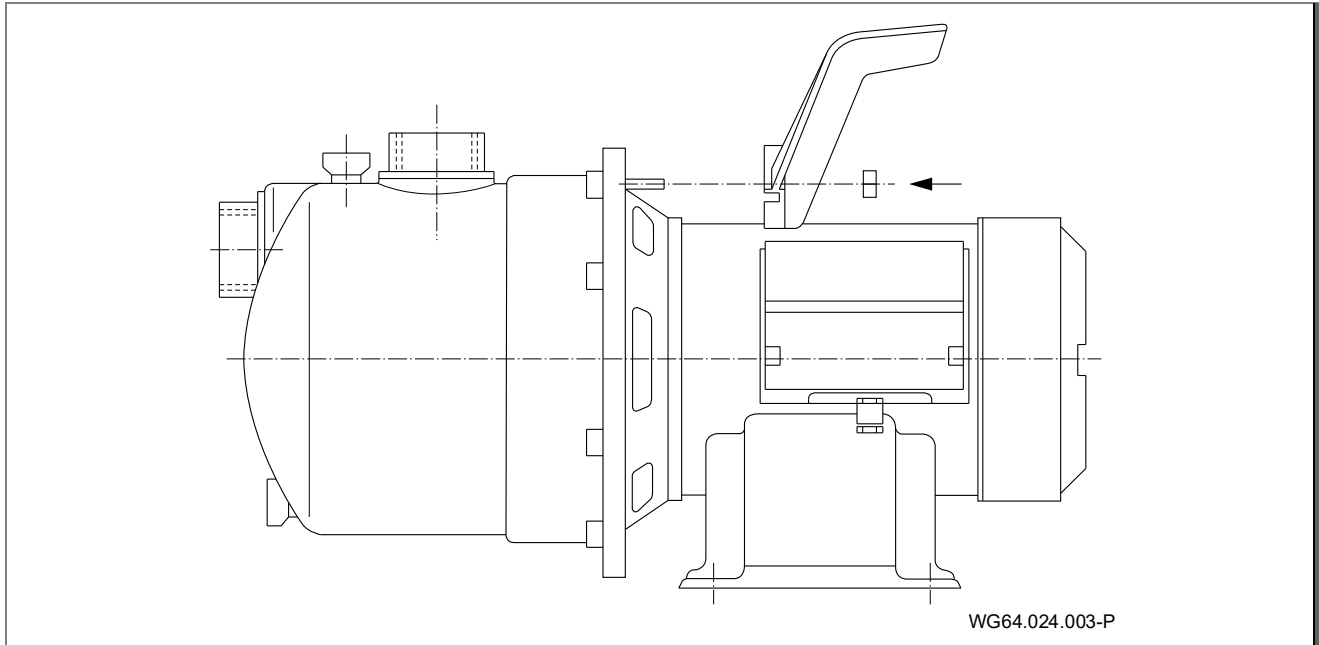

Fig. 1
- ➔ The pump unit, consisting of the motor and the pump, should be attached on both the motor and pump sides. See "Fig. 1" on page 10.